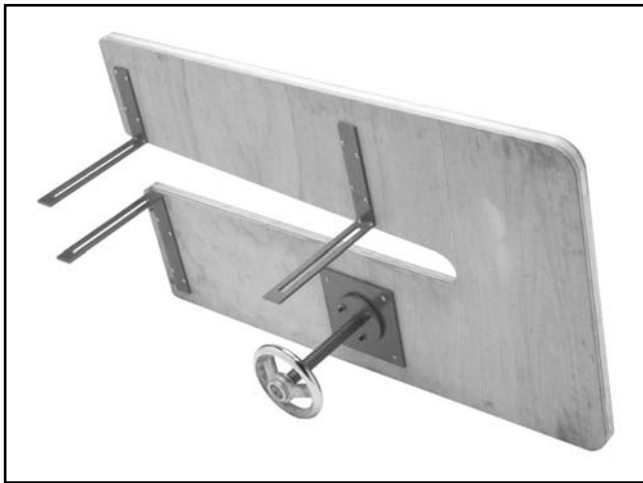

Figure 39. Table removed w/attached supports.
3. Remove the table by removing the lock handles, but keeping the L support brackets and elevation plate attached to the table as shown in **Figure 39**.